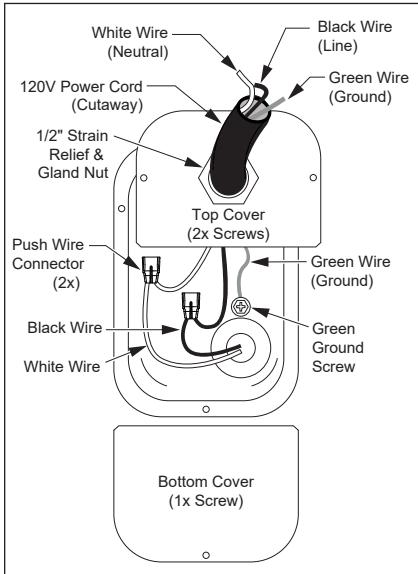

Figure 46 - 120V Power Cord Wire Diagram
- 2** Locate the electrical junction box on the side of the water heater. Remove the one (1) screw securing the bottom cover to the junction box. Remove bottom cover and set aside in a safe place. Using a non-contact circuit tester, check the power wires to make certain the power is **OFF**.
- 3** Remove the two (2) screws securing the top cover to junction box. Gently pull the top cover away from junction box.
- 4** Inspect and take note of wire arrangement in the junction box for proper reconnection (see Figure 46).